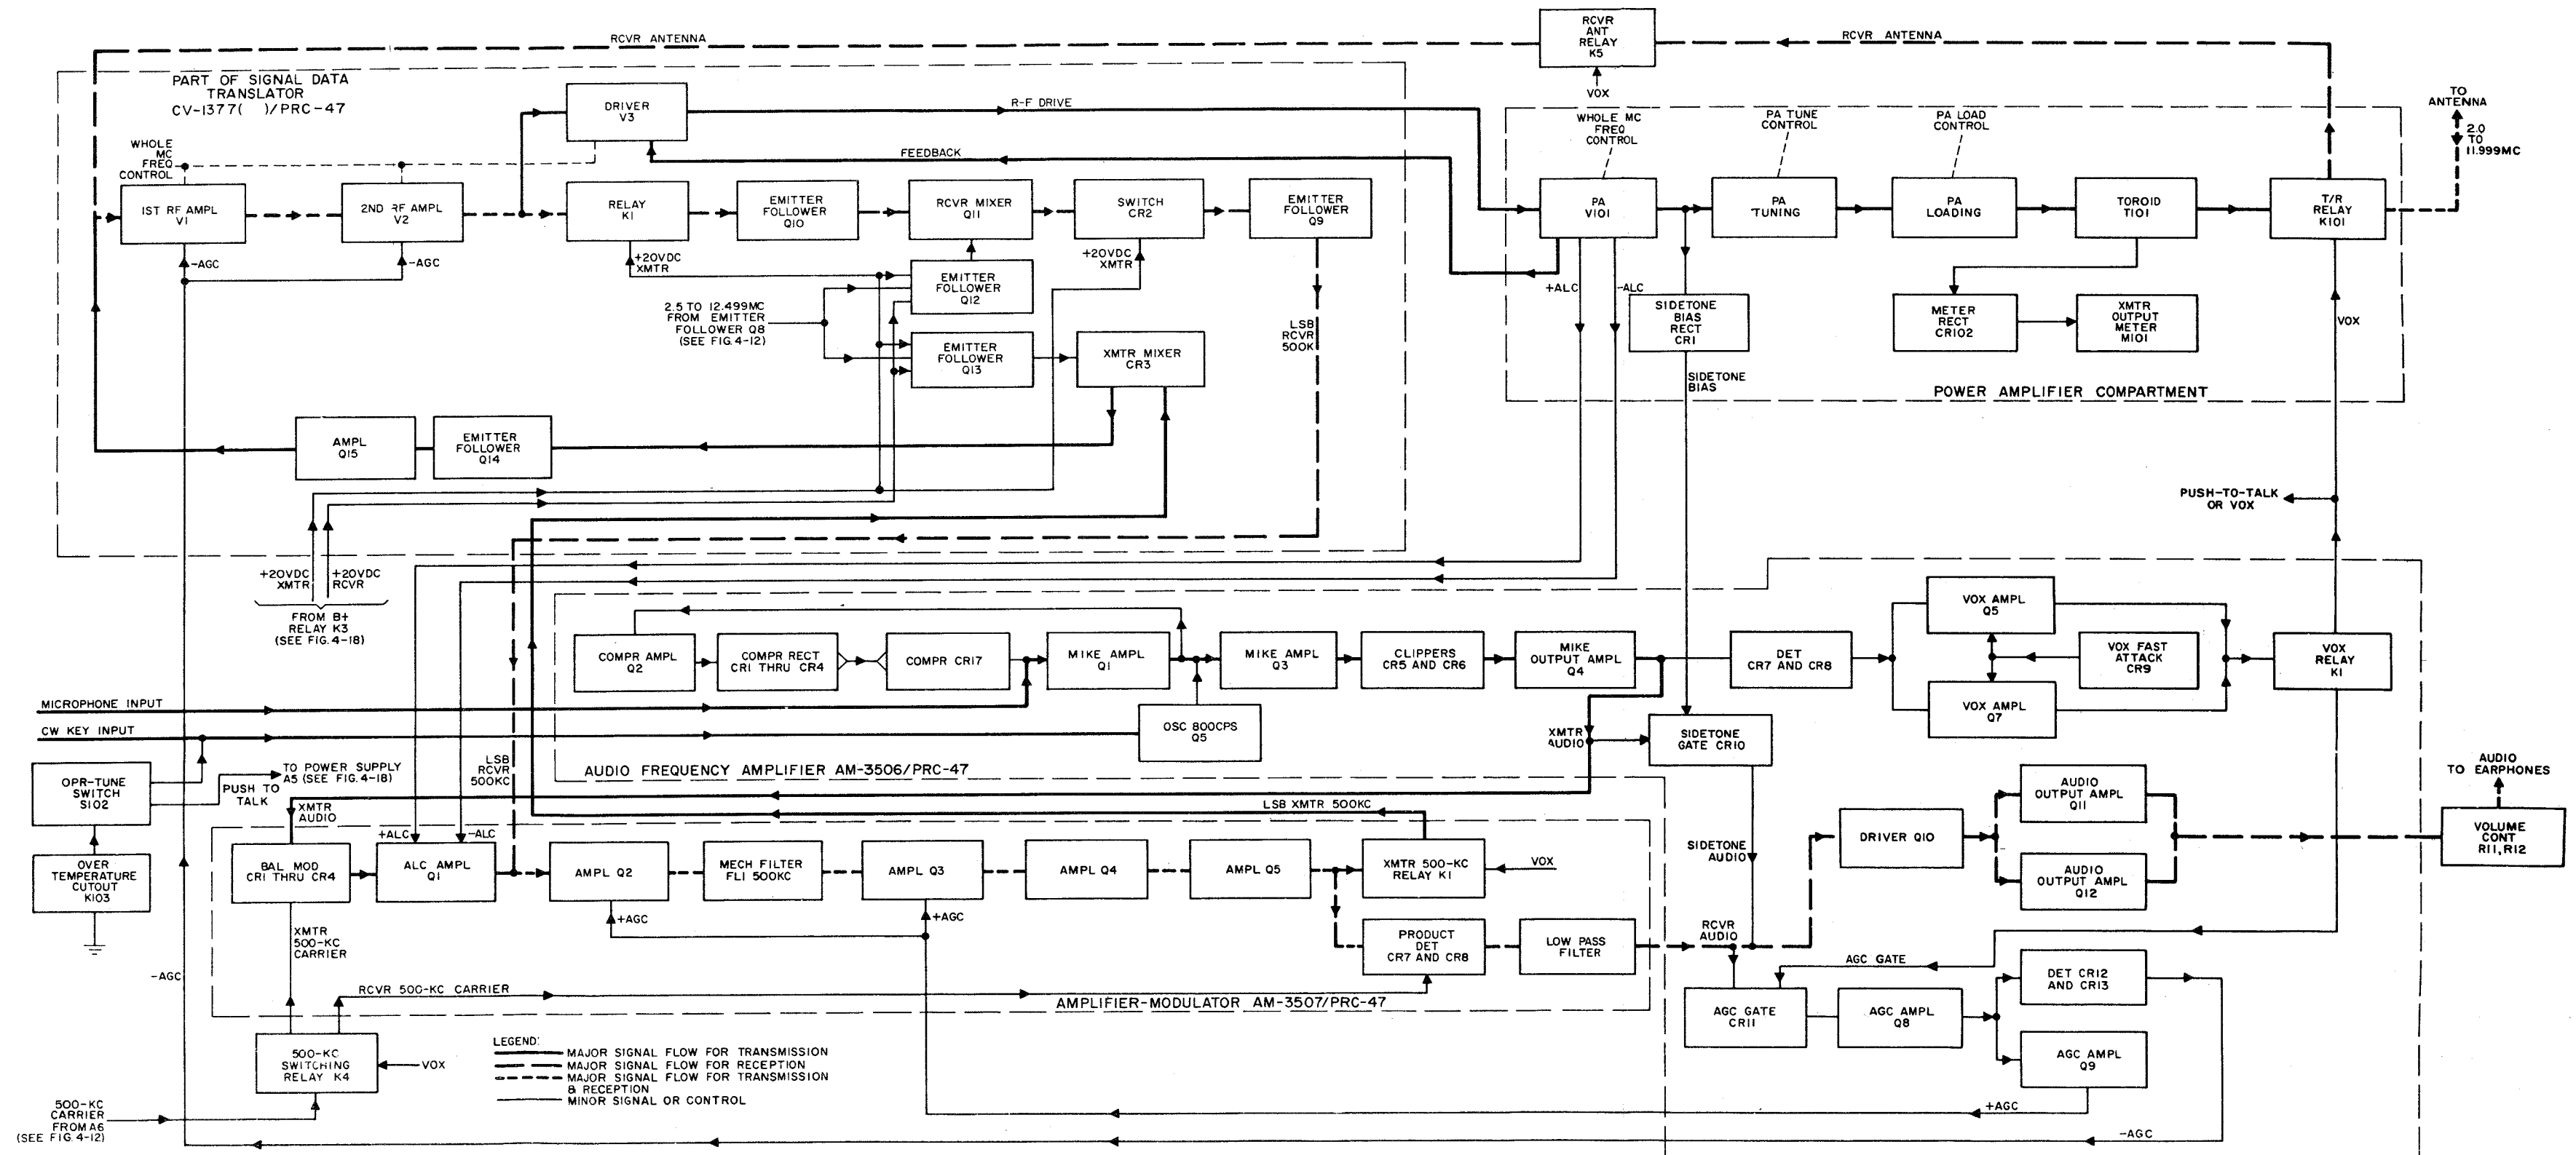

Figure 4-3. Transmit-Receive Circuits, Detailed Block Diagram
b. TRANSMIT-RECEIVE CIRCUITS, DETAILED DESCRIPTION. (See figure 4-3.)
(1) TRANSMISSION.